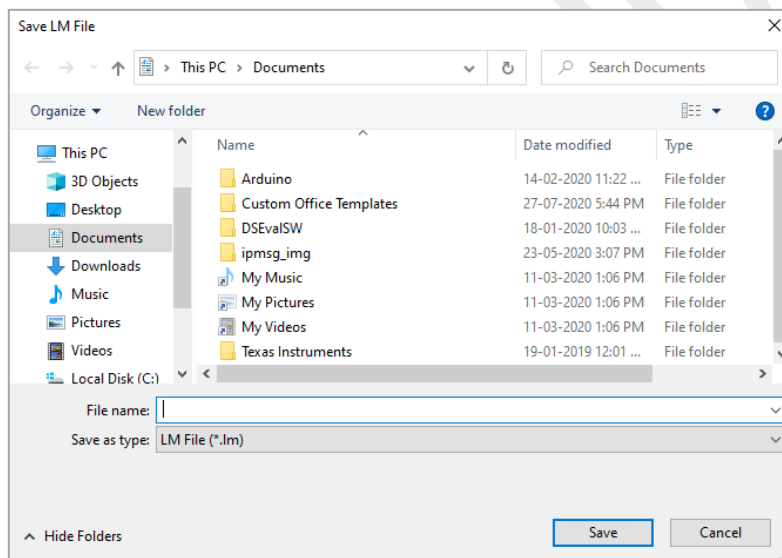

Figure 8 Selecting file location for saving data summary
- Open LMViewIN-074 software Application to carry out analysis for process readings. The pop-up window will appear as shown in figure 8. Select the appropriate file path and batch file name for saving the data file and press button.